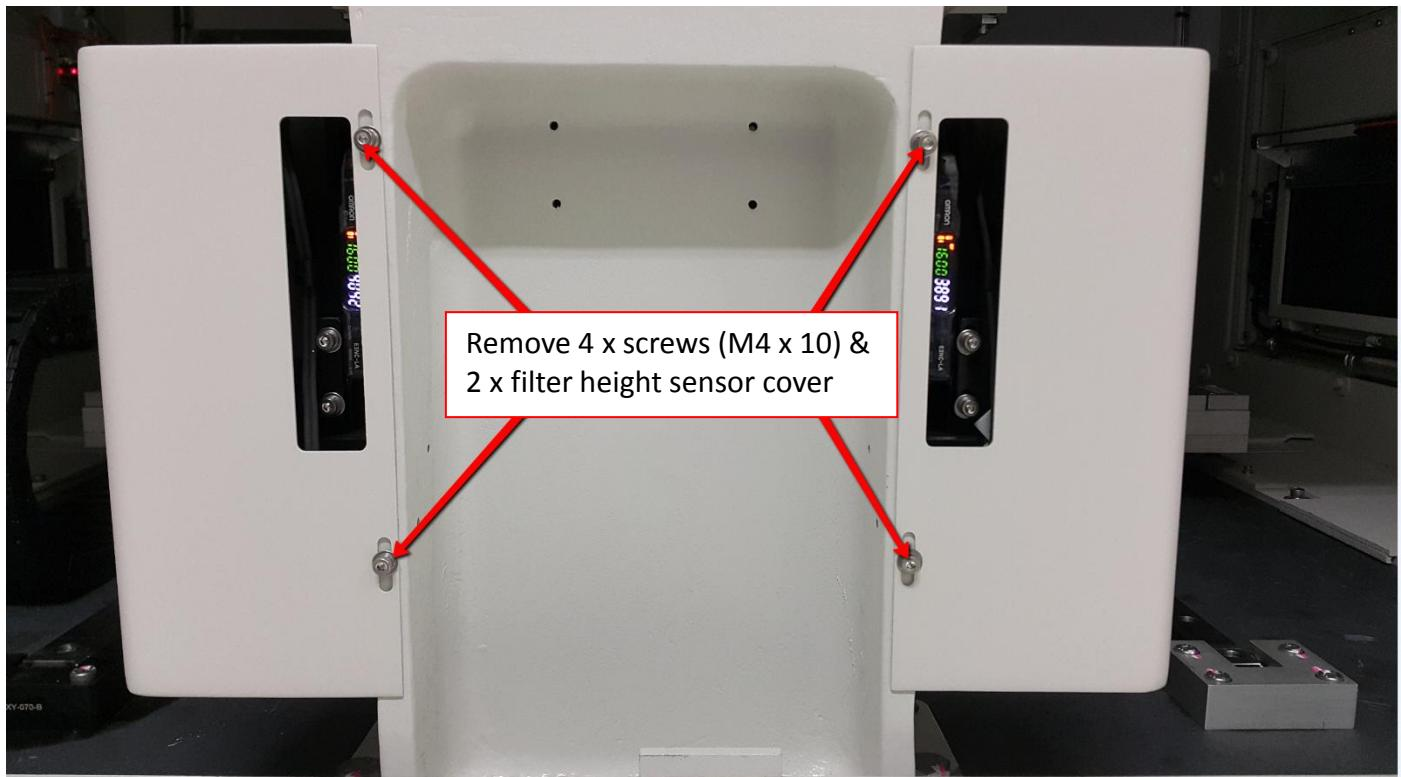

Figure 23 Filter height sensor
2. Remove 4 x screws (M4X10) & both filter height sensors cover as shown in the Figure 23.